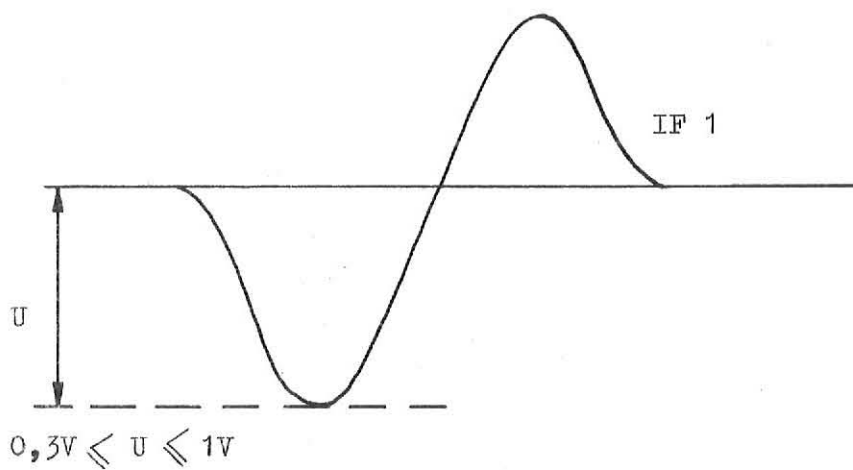

Fig 7-24
3. Check if the signal on the ascillascope is the same as fig 7-24.